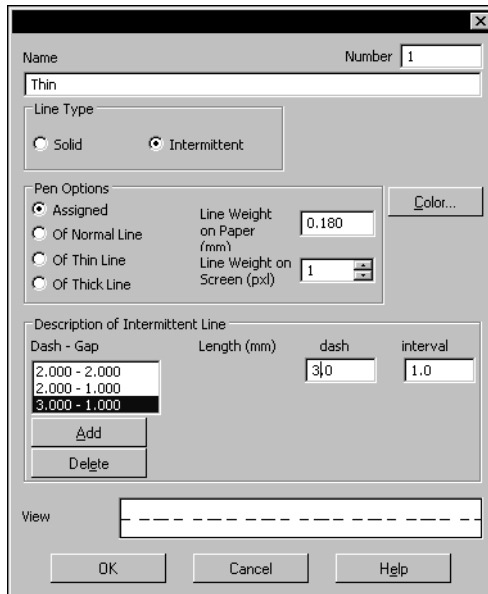

Fig. 8.11. Customizing a User's style
- 9.10. Customizing of the User's style is completed (Fig. 8.11). Click the **Exit** button in the dialog.